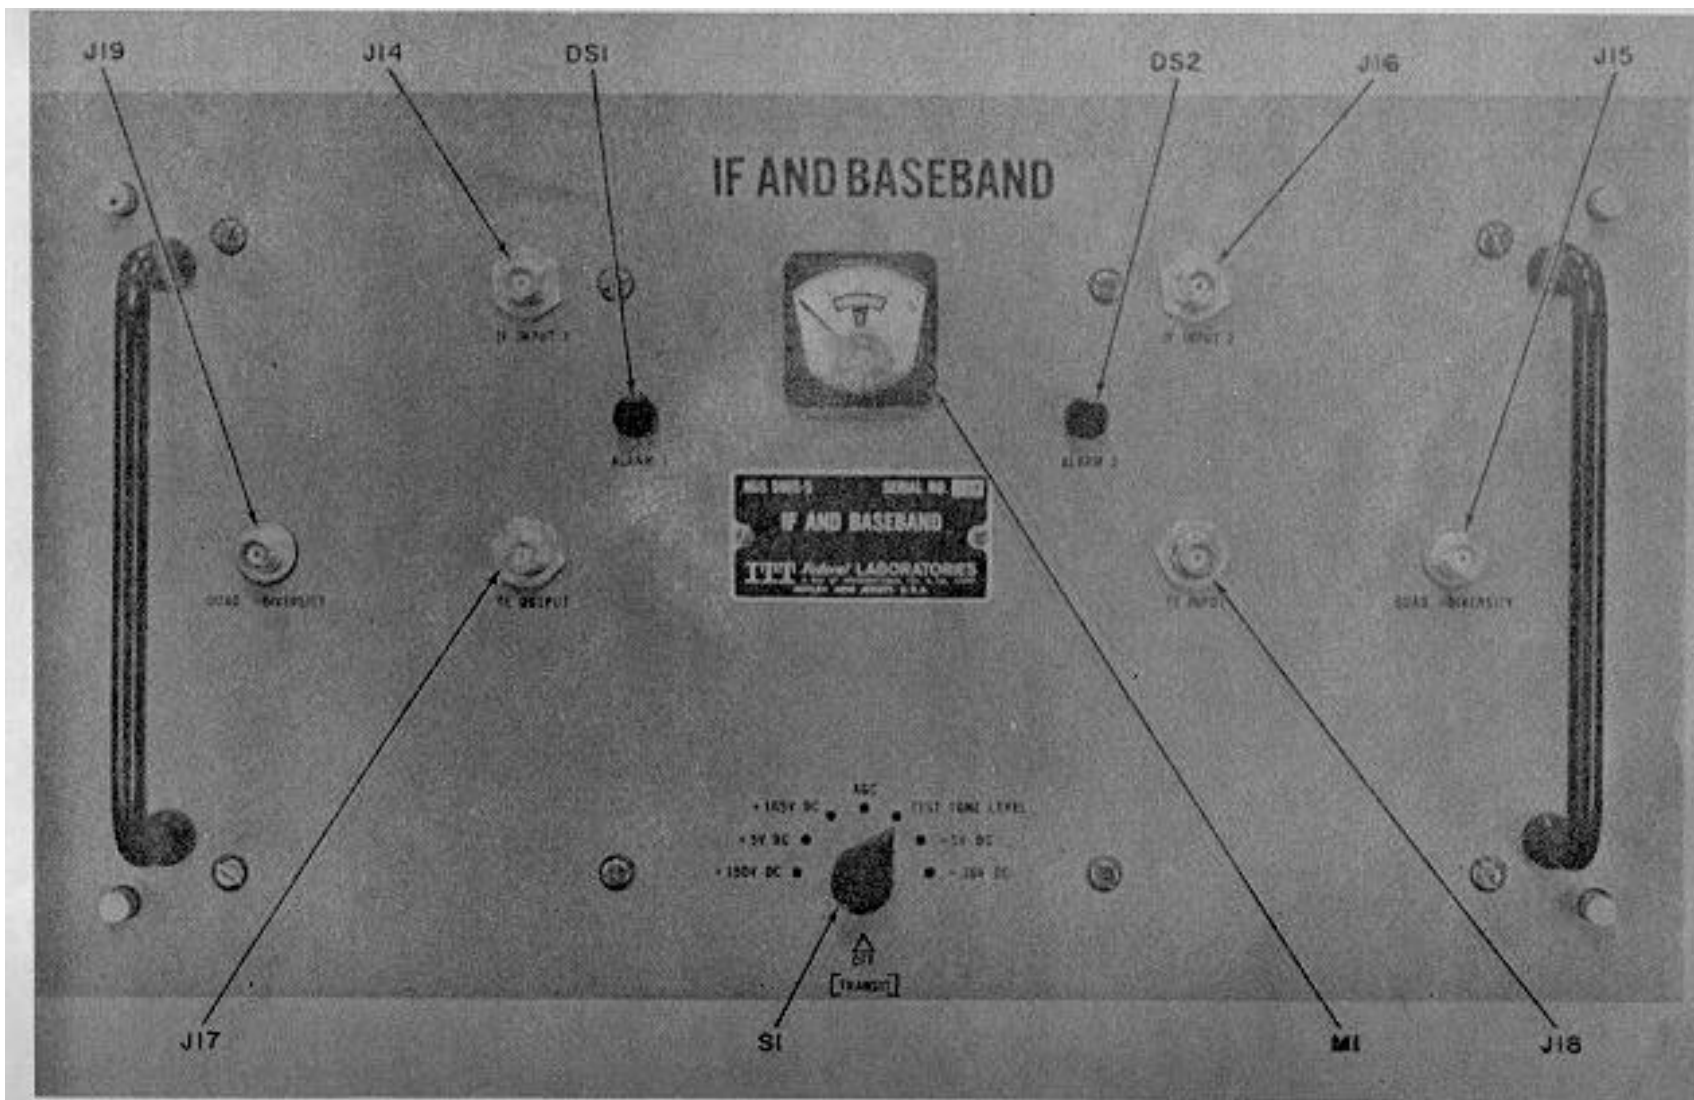

Figure 2-9. IF and Baseband Drawer, Front Panel
- b. Connect IF OUTPUT 1 (J3) and IF OUTPUT 2 (J4) connectors on front panel of Preselector and Mixer drawer to IF INPUT 1 (J14) and IF INPUT 2 (J16) connectors on front panel of IF and Baseband drawer (figure 2-9) with RG-59/U cables, W3 and W1, respectively.